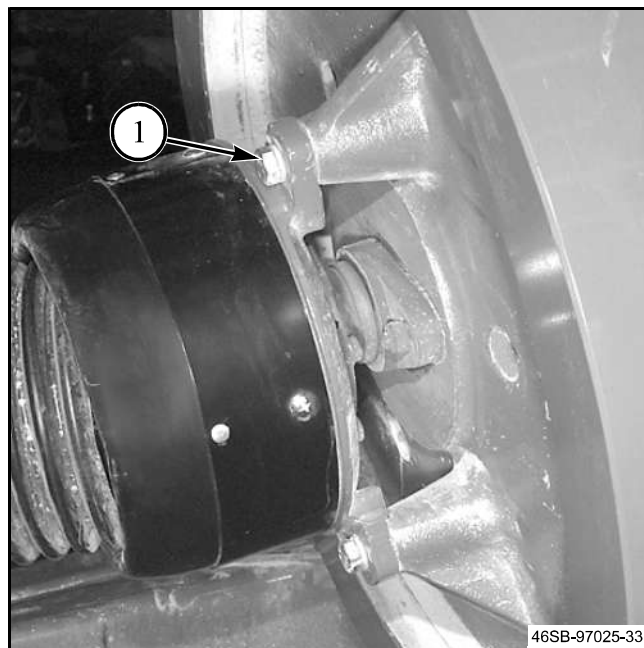

FIG. 117
FIG. 117: Remove the three cap screws (1) that fasten the slip clutch assembly to the flywheel. Remove the slip clutch assembly from the flywheel. Lower the slip clutch assembly and driveline to a secure position. You do not need to separate the slip clutch assembly from the driveline.